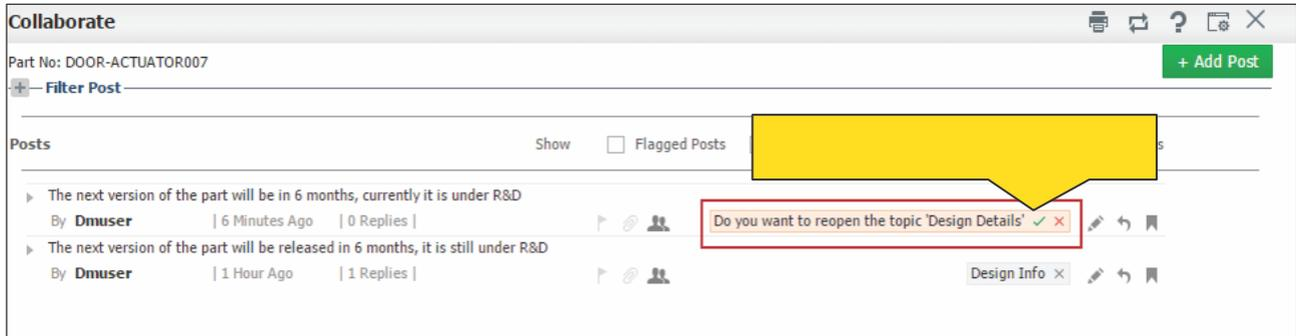

Figure 2.10 Creating formula
1. Select icon alongside the post which you wish to reopen. The system displays the option “Do you want to reopen the topic?” See Figure 2.10.